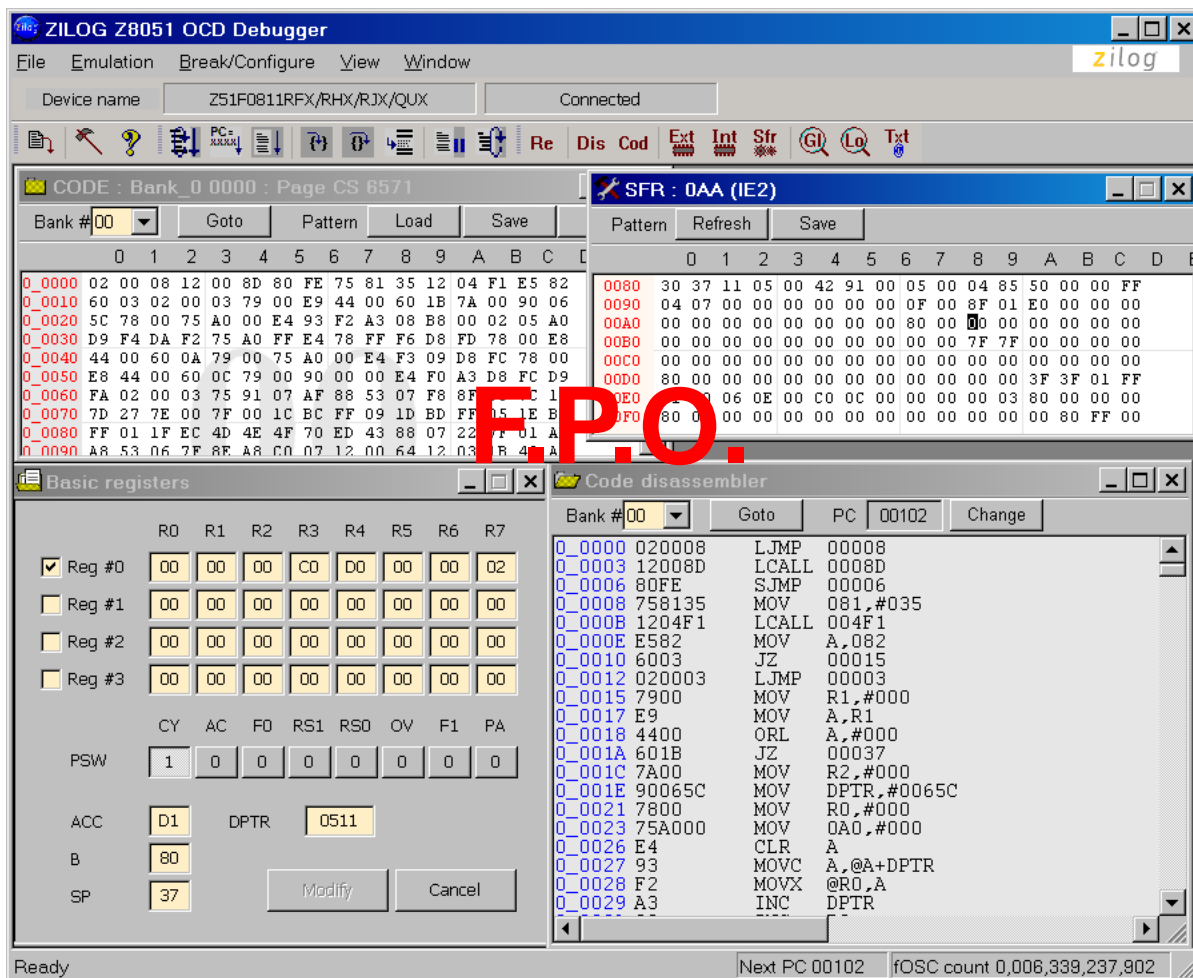

Figure 11. A Typical On-Chip Debugger Window
8. Click the **Write** button to open the On-Chip Debugger's main window. A typical OCD window is shown in Figure 11.